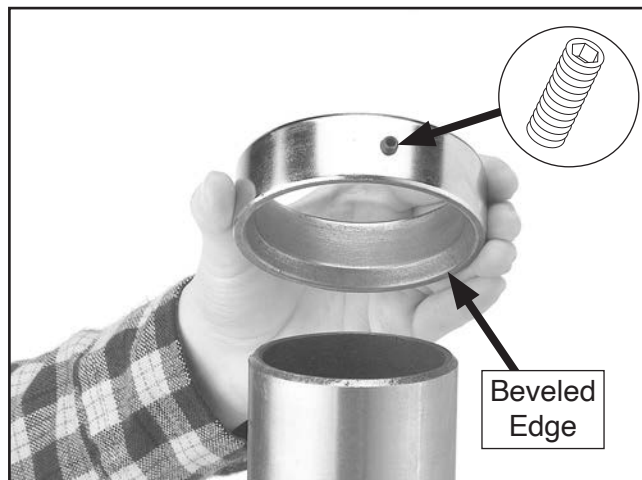

Figure 17. Correct column collar orientation.
5. Slide column collar over column with beveled edge facing down, as shown in **Figure 17**, then fit beveled edge of collar over rack and tighten set screw to secure.